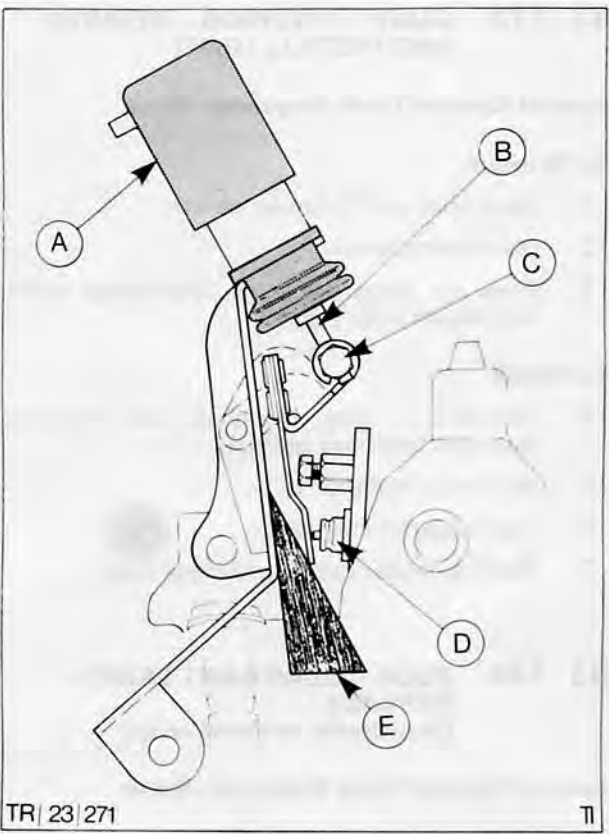

Fig. 47B. Excess fuel solenoid adjustment
5. Adjust solenoid control rod as follows, Fig. 47B.
- (b) Fully engage solenoid by pushing control rod 'B' in Fig. 47B, upwards as far as possible.